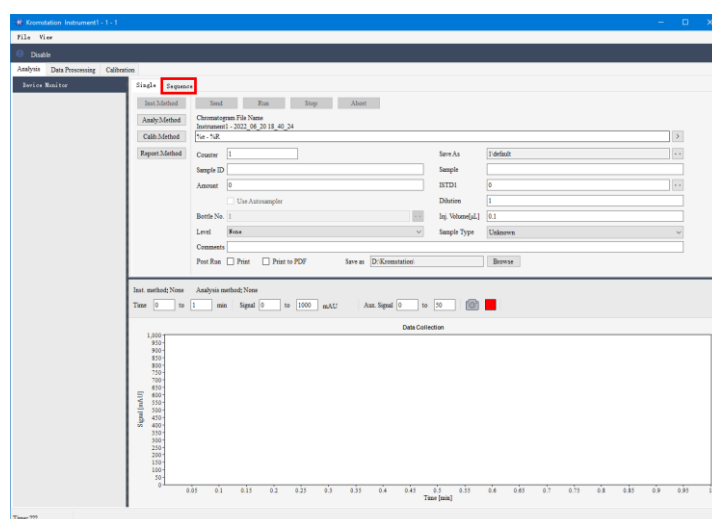

Figure 4-2 Open Sequence Analysis
- 1) Click "Sequence" analysis to enter the sequence analysis window, as shown in Figure 4-2.